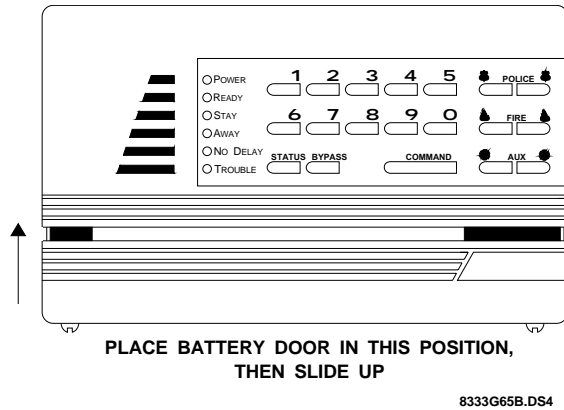

Figure 19. Positioning the Battery Door
- 1) Position the battery door on the panel as shown in Figure 19.